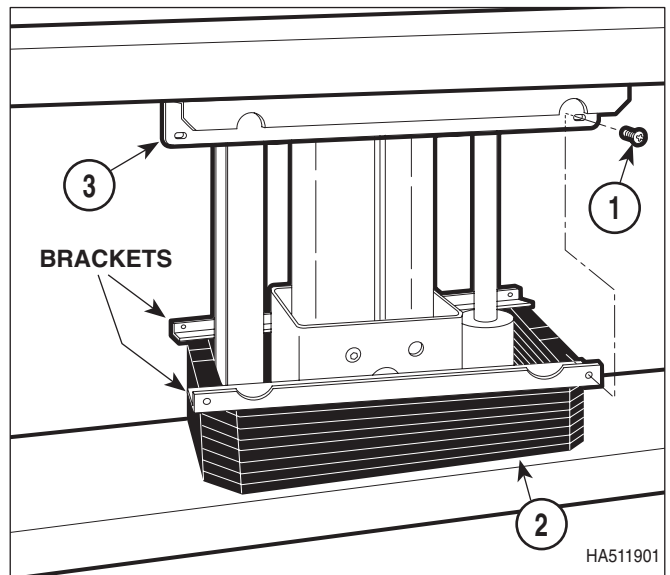

Figure 4-3. Lower Bellows For Access
- (1) Remove four screws (1, Figure 4-3) and lower bellows (2) from litter top (3).